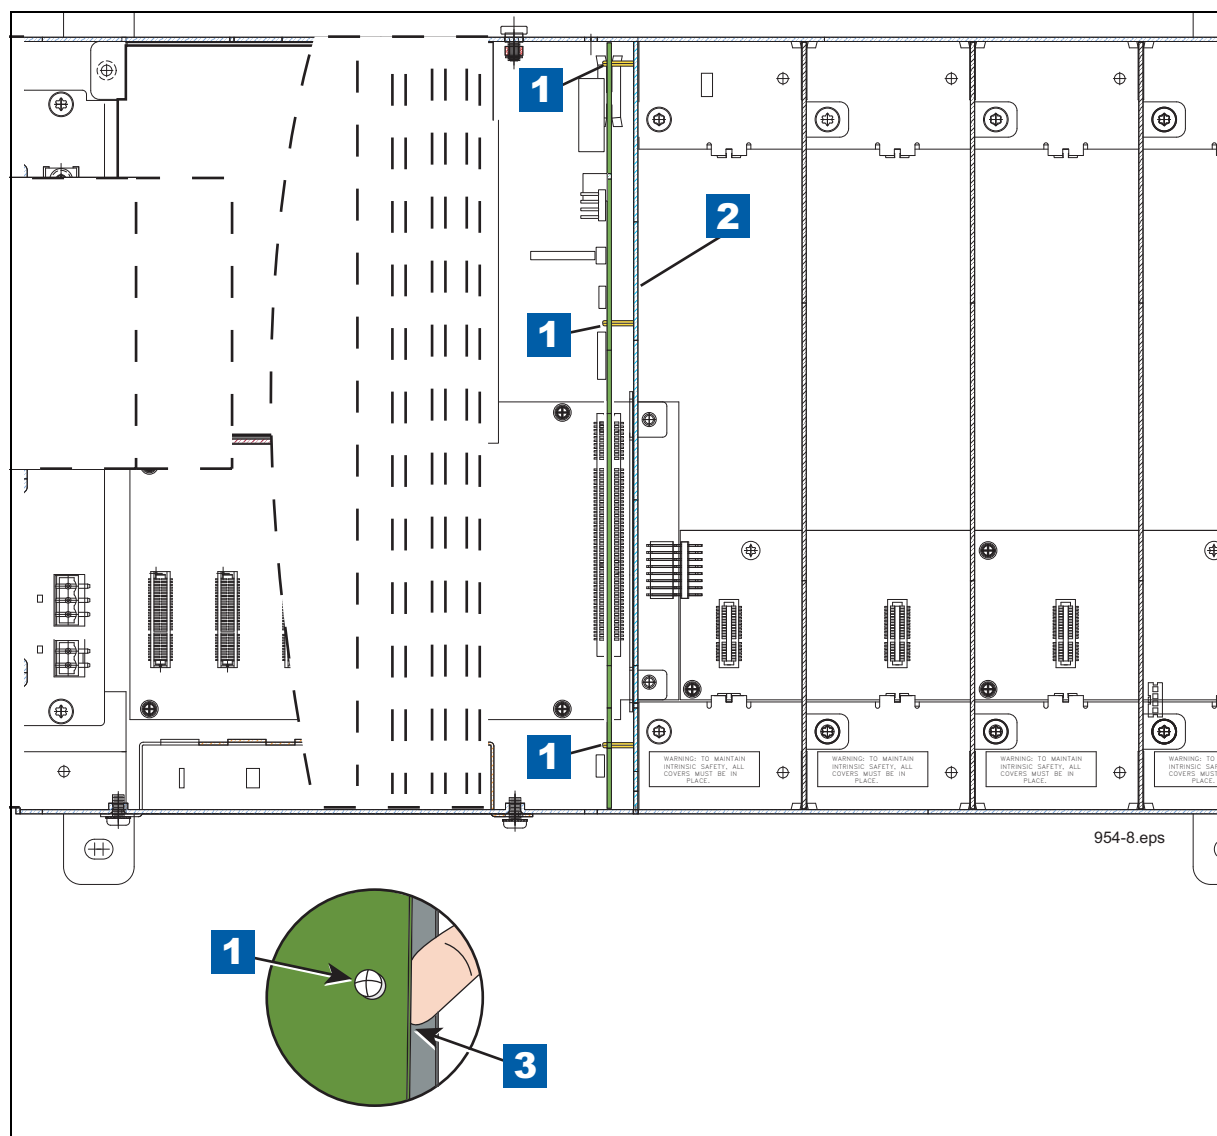

Figure 7. Locating CPU board hold-down pins
3. Locate the three retention snap pins along the front of the CPU board (see Figure 7).
LEGEND FOR NUMBERED BOXES IN Figure 7
6. Position your forefinger beneath one of the pins and press up releasing the CPU board (see item 3 in Figure 7). Repeat at each of the remaining two retention pins.
7. Tilt the board a little away from the bulkhead (item 2 in Figure 7) and grasping the edge of the board pull out firmly to remove the board from its backplane board connector. Once the CPU board is free from the connector, slowly remove the board from the console being careful not to hit the CF card against the door.